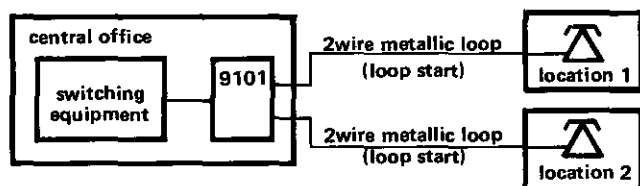

figure 2. Typical arrangement, 9101 located at CO and extensions on different premises
2.02 Where the two extensions are located on different premises, a separate metallic loop from the CO to each of the premises is usually mandatory, and the most convenient location for the 9101 is therefore the serving CO. In arrangements of this type (see figure 2), one extension is typically located at a place of business and the other extension at a residence. The exclusion functions provided by the 9101 allow calls after business hours to be answered at the residential extension, and